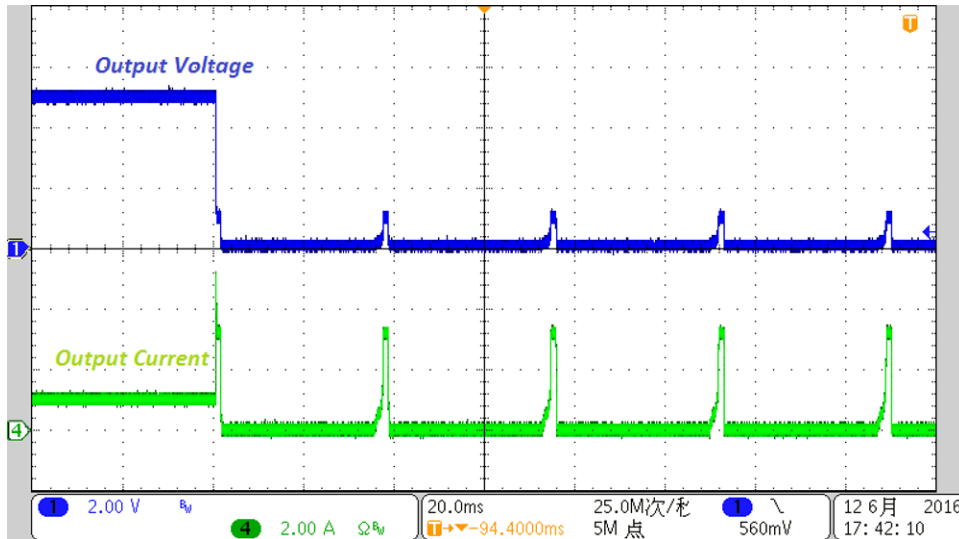
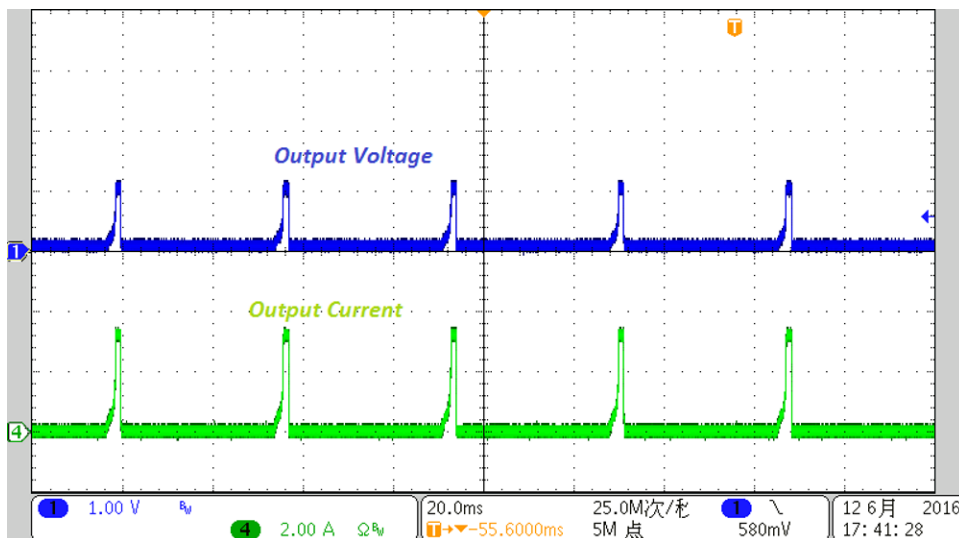

Figure 18. Overcurrent Protection
Figure 19. Short-Circuit Protection
The upper curve (1) is the output voltage with oscilloscope in DC-coupling mode with 2 V/div (Figure 18) and 1 V/div (Figure 19). The lower curve (4) is the output current with 2 A/div.
As shown in Figure 18 and Figure 19, when the current is rising to the current limit level, the device enters overcurrent protection as described in the TPS54202 datasheet (SLVSD26). After waiting the pre-programmed time, the device tries to restart. Once the fault condition is removed, the device starts normally.